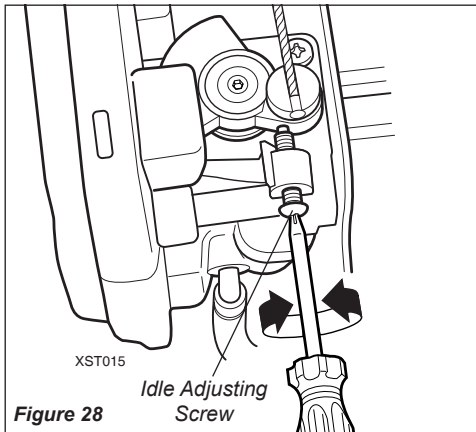

Figure 28
2. If the attachment rotates when the engine is at idle, reduce the idle speed by turning the idle adjustment screw counter-clockwise. See Figure 28.